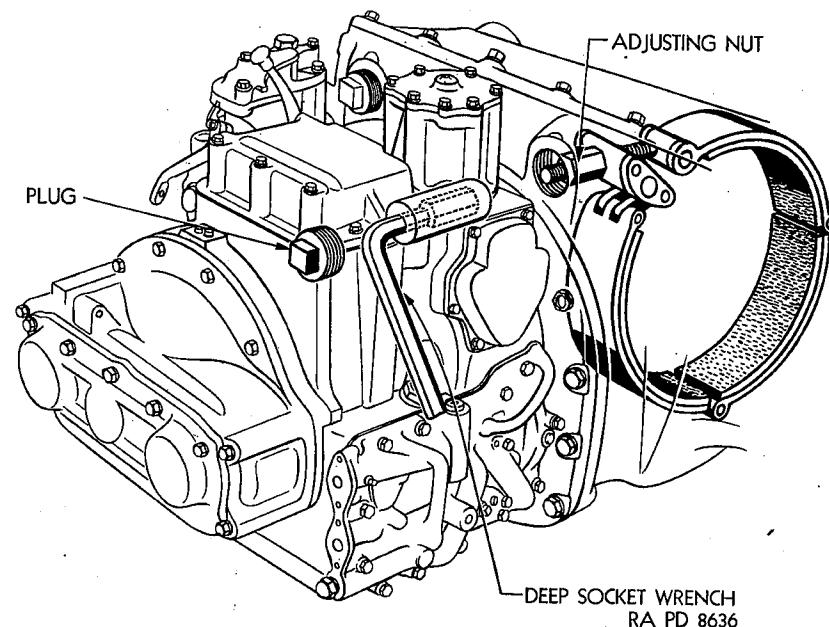

Figure 54—Steering and Brake Band Adjustment
(1) Remove plug from brake drum housing cover on each side (Fig. 54).